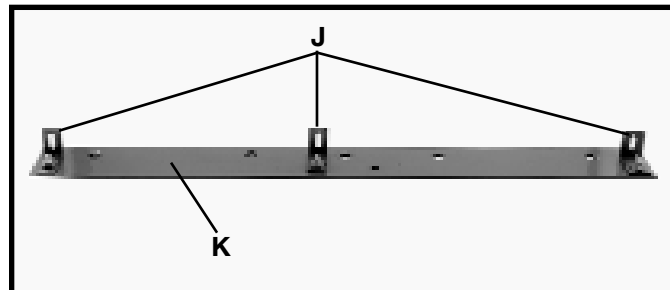

Fig. 11
7. Assemble the three brackets (J) to the table adapter plate (K) using the three 1/4-20x3/4" carriage bolts, nuts and washers, supplied, as shown in Fig. 11. **NOTE:** The long leg of the brackets (J) should be against the adapter plate (K) as shown. Do not completely tighten brackets (J) to adapter plate (K) at this time.